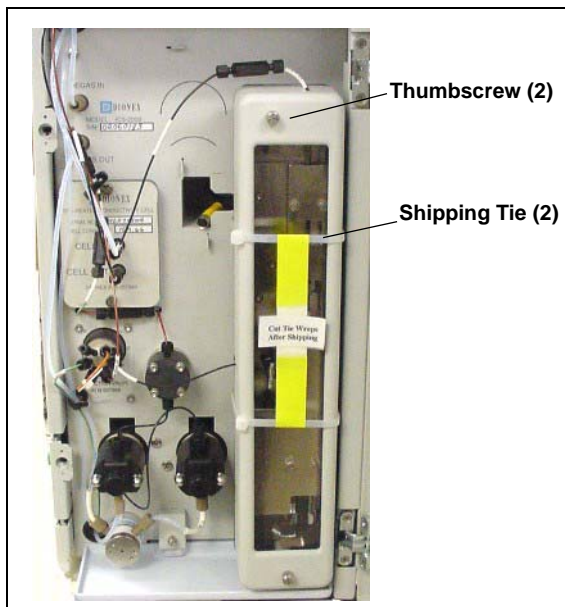

Figure B-18. ICS-1000 Column Heater Setup
1. Cut off the two shipping ties from the column heater and remove them (see Figure B-18).